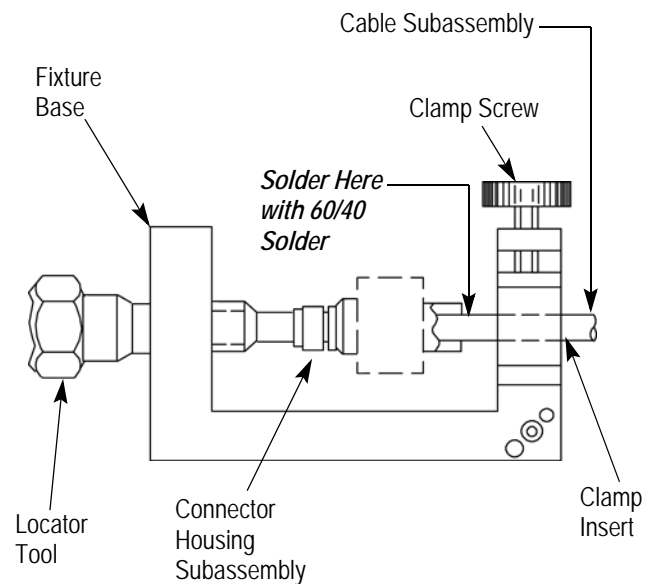

Figure 5
2. Place the loose assembly in the fixture base as shown in Figure 5.
5. Maintain the position of the housing subassembly firmly against the locator tool and solder (with 60/40 solder) where indicated in Figure 5.